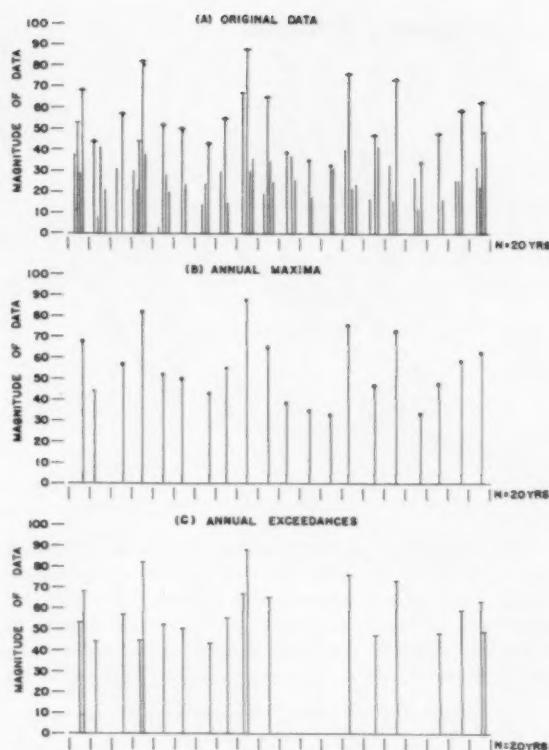
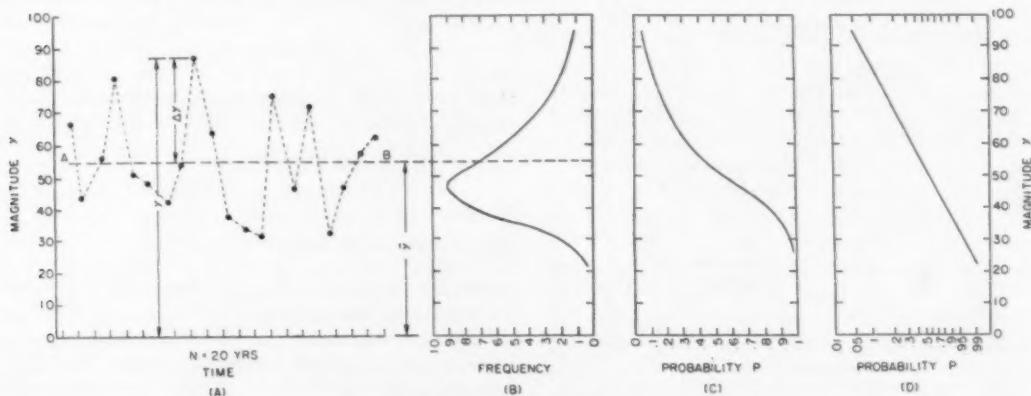

Fig. 1 Hydrologic data arranged in the order of occurrence
Fig. 2 Frequency distribution
Cutter Bar Protection — Ultimate protection for the cutter bar was provided by the closed accumulator circuit shown in Fig. 2. This system maintained 100 lb-ft of torque on the bar carrier. Whenever the cutter bar was driven into an obstruction (grape stake) the tip of the bar was dragged across the interference point. With this system the cutting action was continuous and the bar returned to its normal position as soon as the obstruction was passed.
Fruit Spreader — The lay of fruit on the tray was not to exceed a depth of one cluster diameter. To accomplish this, the fruit was discharged from the rear conveyor to one side of the spreader conveyor (Figs. 2 and 3). The spreader then moved fruit that was more than one cluster diameter deep to the empty portion of the spreader conveyor.
Trash Removal — A centrifugal blower provided 150 cfm of air at a discharge velocity of 1500 fpm (Fig. 2). Although the percentage of trash (Fig. 1) may be acceptable at a winery, additional cleaning is needed for raisins. Loose leaves were largely removed by an air carrier, but trash attached to fruit stems remained with the fruit. Improved vine training practice and long-stem varieties will provide a solution.
Fig. 1(A) exhibits a set of runoff data from a watershed observed in 20 years and plotted in a chronological order. The magnitude is in cubic feet per second of daily peak discharge. The figure does not show 365 values in each year since the stream is assumed to be non-perennial. Experience has indicated that many of the original data have practically no significant value in the analysis because the hydrologic design of a structure is usually governed by a few of the extreme conditions only. In order to save labor and time in the analysis a portion of the data which is of insignificant magnitude can be excluded. For this purpose, two types of data are generally used in the analysis: the annual maximum values and the exceedance values.
The annual maximum value is the largest of all observations taken in a year. Thus, for 20 years of record there are 20 annual maximum values as shown in Fig. 1(B). The annual exceedance value is the value which is greater than a certain base value. If the base value is selected in such a way that the number of the exceedance values is equal to the number of years of record, then the exceedance values may be called annual exceedance values. Fig. 1(C) shows the annual exceedance values for the 20 years of record. It may be noted that, when annual maximum values are selected, there is possibility of ignoring the effect of the second largest values in each year whose magnitude may outrank many annual maximum values. On the other hand, when exceedance values are selected, the second largest values are included in the analysis, but these values may be so close to each other and to the maximum values in their time of occurrence that one value could affect another which follows closely after. For instance, one flood may set the stage for the next close flood and one storm may disturb the meteorological condition for the subsequent ones. Consequently the selected data are not fully independent events. Logically speaking, the exceedance values should fit the
After the data are selected, it is assumed that they follow a certain pattern of frequency distribution. Take the annual maximum values in Fig. 1(B) as an example and reproduce the plot as shown in Fig. 2(A). The horizontal line AB indicates the position of the mean \bar{y} of all observed data whose magnitude is represented by a variable y . It is evident that any particular value of y can be expressed by
Fig. 2(B) shows a frequency curve for the theoretical distribution which would fit the data in Fig. 2(A). The curve is plotted with the magnitude against the number of items of occurrence or the frequency. The cumulative frequency curve or probability curve corresponding to the frequency curve of Fig. 2(B) is shown in Fig. 2(C). This is plotted with the magnitude against the probability of recurrence of an event equal to or greater than magnitude y .
It is convenient for practical purposes to plot the probability curve, such as that of Fig. 2(C), in a straight line. This can be done by transforming the scale of the ordinate in such a way, as shown in Fig. 2(D), that the curve would appear as a straight line. The construction of a probability paper with this transformed scale to fit a particular law of distribution can be easily understood by examining equation [3]. According to this equation, the magnitude y is a linear function of K . In other words, the curve would appear as a straight line for the theoretical distribution if y is plotted linearly against K . Most observed data will indicate a straight line trend, and hence a straight line of fitness can be determined.